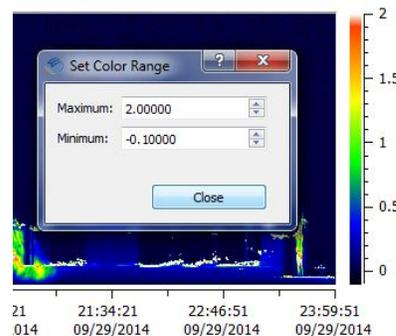

Figure 8: Changing the Color Range for Time Series Plots
- 4.7.2. The color bar indicating the color-coordinated values is located at the right of each Time Series Graph. The color bar contains 23 hard-stop colors that span the selected scale. Values on the graph that exceed the scale's upper bound are set to white while values that are below the lower bound are set to black. The color bar scale for each time plot can be changed individually. To select a new scale right click on the plot and select *Set Color Range* to bring up the color bar menu (Figure 8). *Set Color Range* brings up the dialog box to change the upper and lower bounds of the color bar respectively. Currently, these colors and their order cannot be changed.